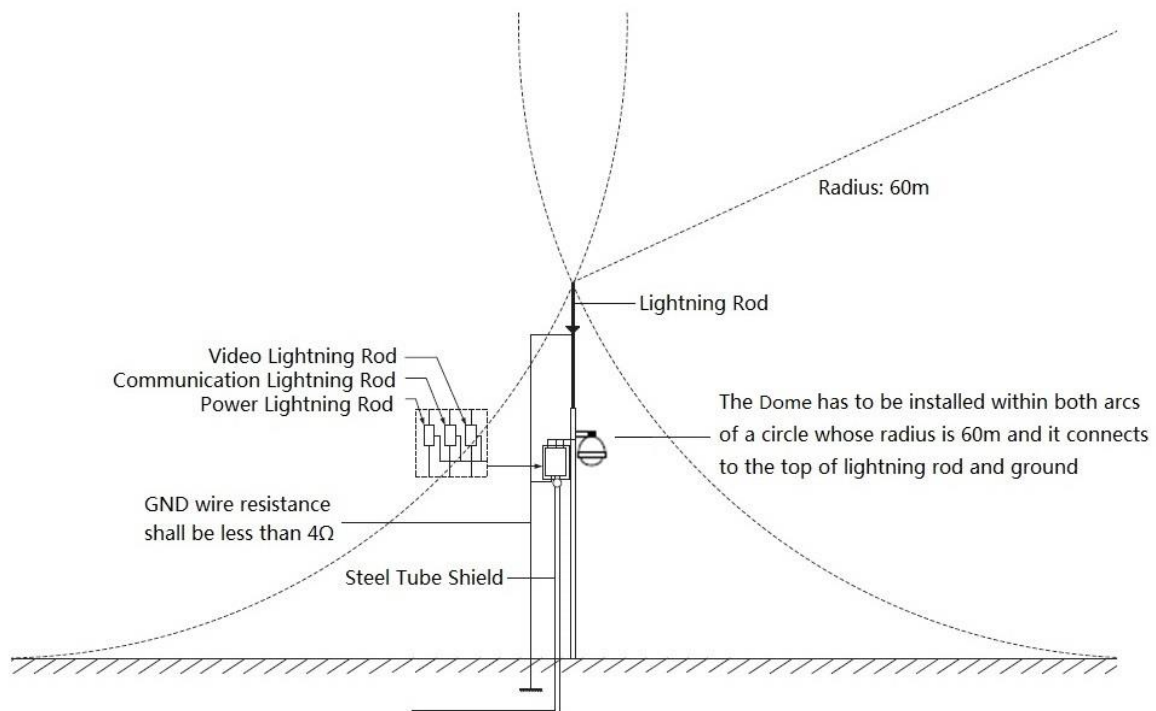

Figure 5-1
- System shall adopt equal-potential wiring. The earth device shall meet anti-jamming and at the same time conforms to your local electrical safety code. The earth device shall not short circuit to N (neutral) line of high voltage power grid or mixed with other wires. When connect the system to the earth alone, the earth resistance shall not be more than $4\ \Omega$ and earth cable cross-sectional area shall be no less than $25\ \text{mm}^2$. See Figure 5-1.